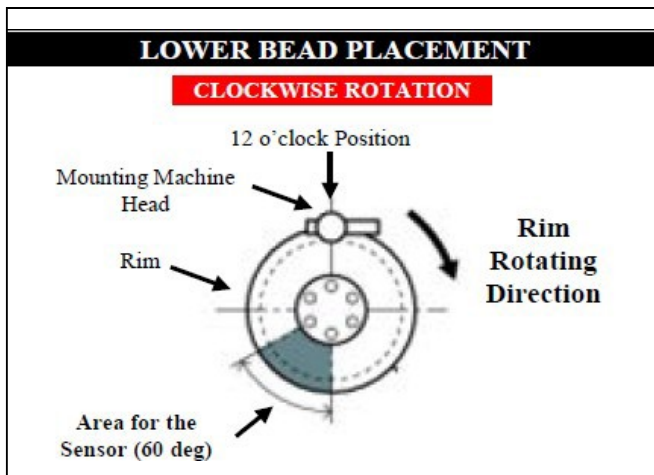

Figure 6a
- b. Position the wheel on the mounting machine with the sensor at ~ 7 o'clock position. See Figure 6a (Shaded Area). Mount/dismount head is considered as 12 o'clock Position.